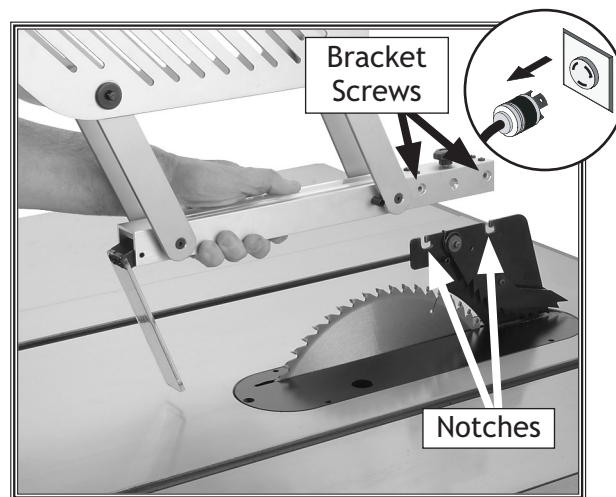
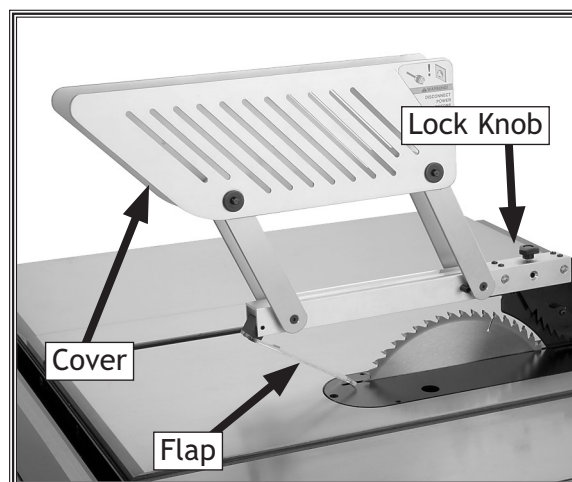

Figure 29. Installing blade guard on splitter.
Figure 30. Blade guard installed.
- Slide the bracket screws shown in **Figure 29** into the notches on the splitter, push the guard toward the back of the table, and tighten the lock knob (**Figure 30**). If you have difficulty sliding the blade guard bracket screws (**Figure 29**) into the notches on the splitter, loosen the bracket screws just enough so the guard fits on the splitter.